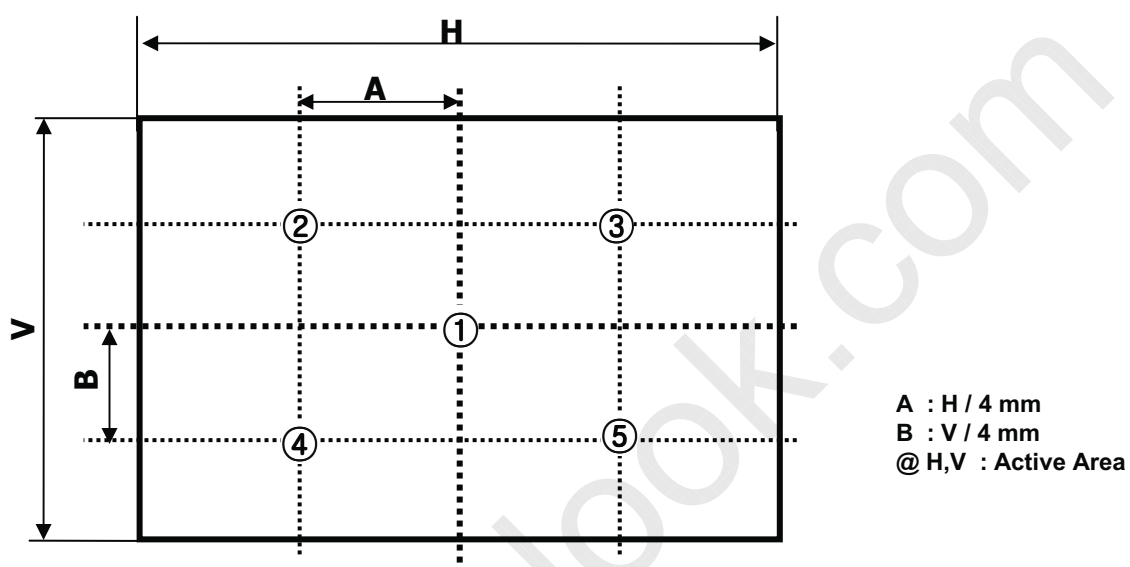

FIG. 2 5 Points for Luminance Measure
n = the Position number(1, 2, 3, 4, 5). For more information, see FIG 2.
2. Surface luminance is determined after the unit has been 'ON' and 1 Hour after lighting the backlight in a dark environment at 25±2°C. Surface luminance is the luminance value at center 1-point across the LCD surface 50cm from the surface with all pixels displaying white. For more information see the FIG. 2.
For more information, see the FIG. 2.